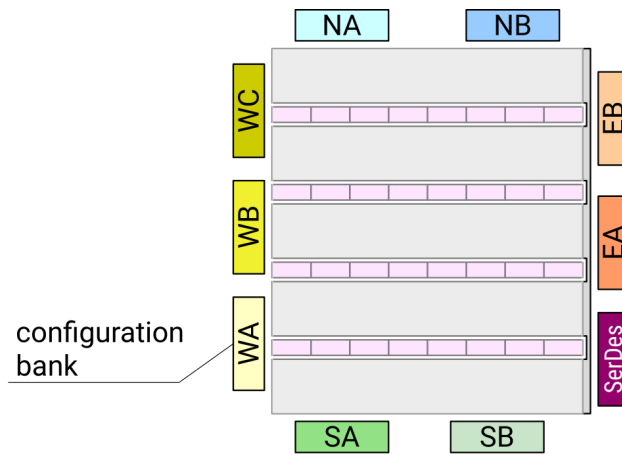

Figure 2.7: GPIO banks of CCGM1A1 (chip view)
There are two GPIO banks on each edge of the CCGM1A1 / CCGM1A2 named after the cardinal directions north (N), west (W), east (E) and south (S). As an exception, a third bank for configuration signals is attached to the west edge as shown in Figure 2.7.